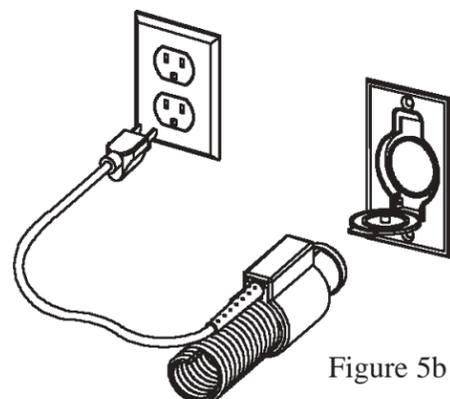

Figure 5b
3. Insert the hose into a wall vacuum valve (faceplate), and plug the cord into the electrical outlet (as shown in Figure 5b).